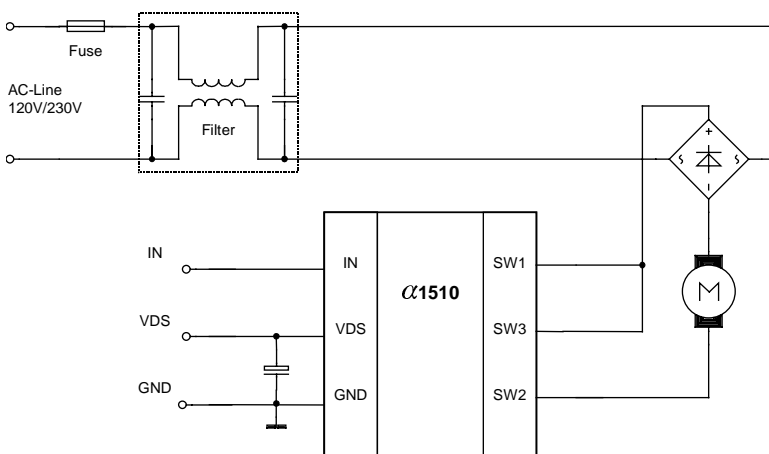

Fig.1 Speed regulation of an engine
- Speed regulation of an engine (See Fig.1)